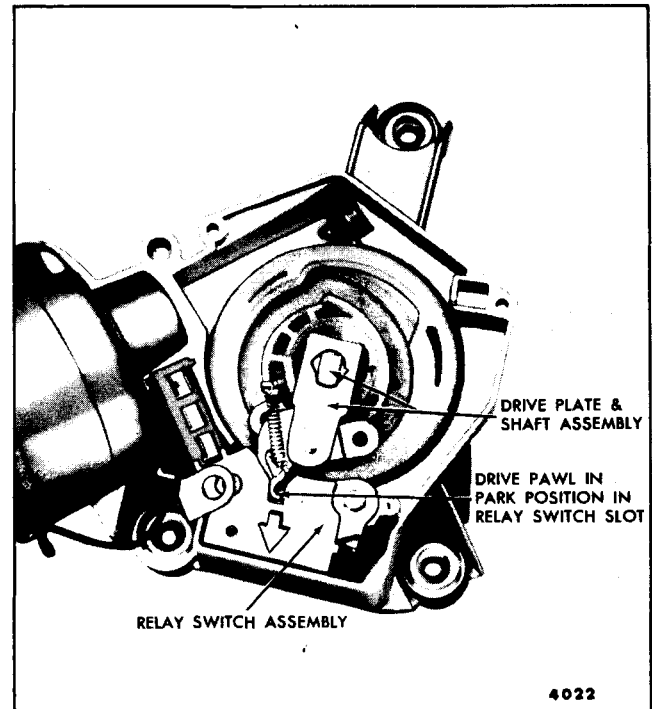

Fig. 2-32-Testing Relay Switch
- a. If gear mechanism is in full park position, insert a small screwdriver into the switch slot (between the drive pawl and the relay latch arm) and push relay latch arm downward and toward the relay coil in direction of the arrow in Fig. 2-32. Next, remove a small amount of insulation from black lead with pink tracer and touch test lamp to exposed wire.